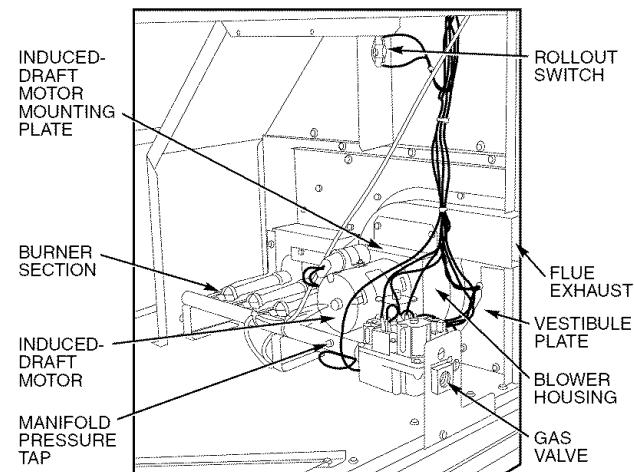

Fig. 52 — Burner Section Details
2. Remove the 7 screws that attach induced-draft motor housing to vestibule plate (Fig. 52).
- Remove the 2 screws that attach the burner rack to the vestibule plate (Fig. 52).